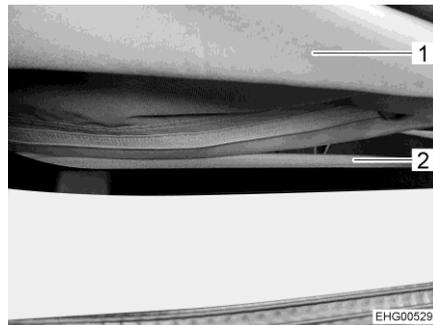

Fig. 38 Zip
- Fully open the zip (Fig. 38,2) on the underside of the bellows (Fig. 38,1).